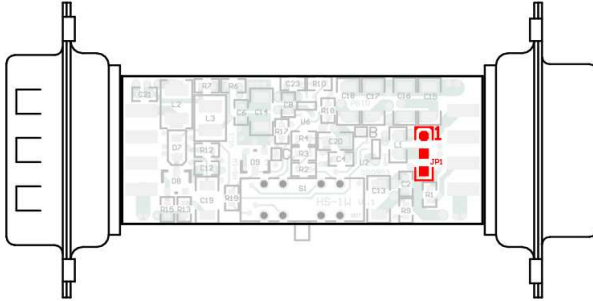

Figure 2: Position of soldering field JP1 on the bottom side of the opened PCAN-AU5790
2. On the bottom side of the PCB in the soldering field JP1, a 0-Ohm resistor connects the lower two pads (see Figure 2). Unsolder the resistor and replace it so that it connects the